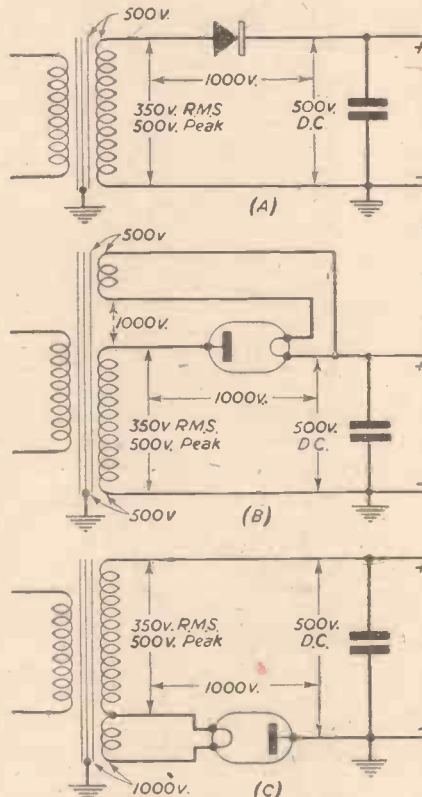

Fig. 1.—Diagrams showing voltages existing between windings, and core and windings, under various circuit conditions.
layers and windings, are governed firstly by the electrical stresses that it will be required to withstand, and, secondly, by the mechanical stresses. The first mentioned will depend to a great extent on the type of circuit with which the transformer is to be used. Consider Fig. 1(A), which illustrates a simple half-wave power supply circuit, using a metal rectifier.
In the circuit of Fig. 1(B) a somewhat different state of affairs obtains. Here we have a similar circuit, but using a valve rectifier instead of metal. As before, 500 volts are developed across the secondary H.T. winding, 500 volts across the condenser, and 1,000 volts across the rectifier. The position is, however, complicated by the presence of the heater winding, for the 1,000 volts developed across the rectifier must also occur
If we try to ease the insulation requirements by using the circuit of Fig. 1(C) the high potential between H.T. winding and heater winding is certainly eliminated but it now appears between windings and core.